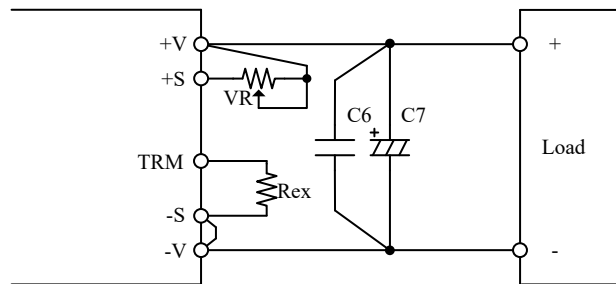

Fig.7-7 Example of Connecting External Resistor (To adjust output voltage for whole range)
Output voltage can be adjusted within specifications of output voltage adjustment range if resistance values of external resistor (Rex) and external variable resistor (VR) as follows are connected like a Fig. 7-7. Take note that output voltage do not become out of specifications when output voltage is adjusted.